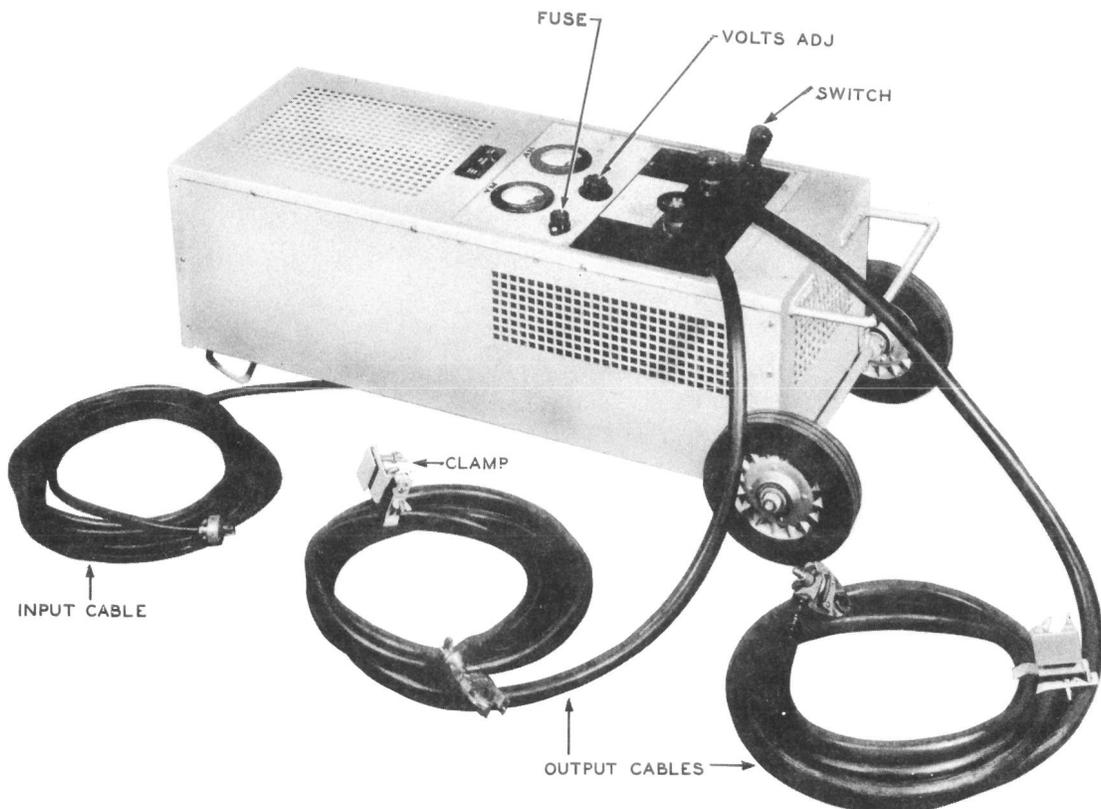

FIG. 1—SINGLE CELL CHARGER
4.01 The rectifier equipment arrangements are covered on ED-81660-01. The apparatus is mounted in a ventilated cabinet approximately 42 inches high, 20 inches wide, and 15 inches deep, over-all. The cabinet is mounted on wheels for ease in transporting and storing in the upright position. To prevent overheating the rectifier must be lowered to the horizontal position for operation as shown in Fig. 1. An instruction card covering operation of the charger is mounted on the control panel. More detailed information on use of the rectifier is covered in BSP 169-621-301.